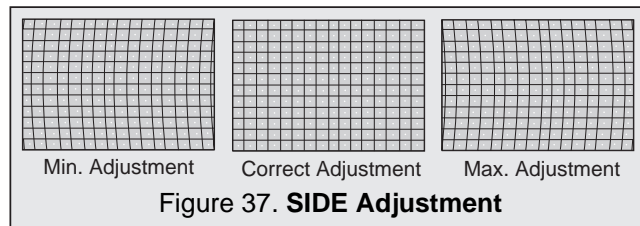

Figure 37. SIDE Adjustment
1. Enter Serviceman Mode, select "SIDE" and adjust so that lines at right and left are vertical like solid line. (See Fig. 37)